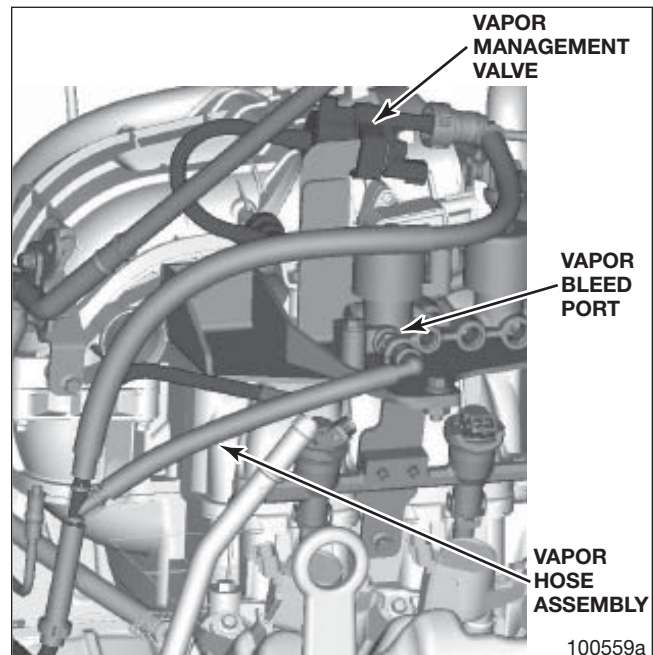

Figure 91 – Vapor Hose Assembly
8. Install the vapor hose assembly on the vapor management purge valve and vapor/bleed port on the FRPCM. Torque the vapor/bleed port to 18-20 Nm. Figure 91.